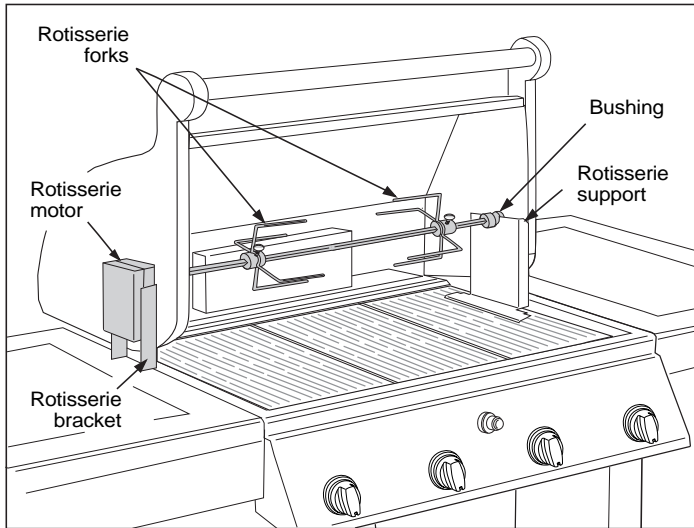

Fig. 12
2. Insert the ends of the Rotisserie Support into the slots of the right cooking grate, so that the edge of the support is approximately 1" from the right casting, and the top groove is in line with the rotisserie spit hole in the left casting (see Fig. 12).
4. Engage the Rotisserie Motor in the Motor Bracket (see Fig. 12).
5. Assemble the spit and meat forks. Adjust the retainer bushing to keep the spit in place (see Fig. 12). Tighten the thumbscrews with small pliers.